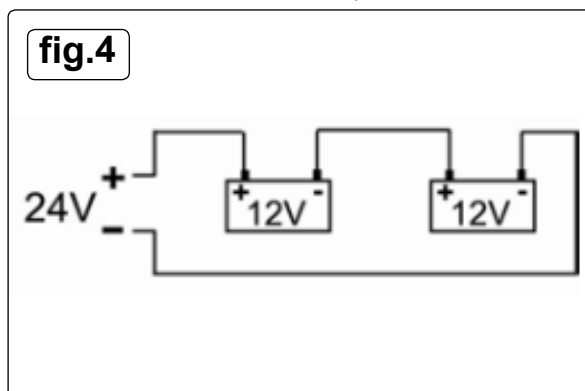

fig.4
4.4.2. Two batteries may be charged in series using the 24V output as shown in fig.4.